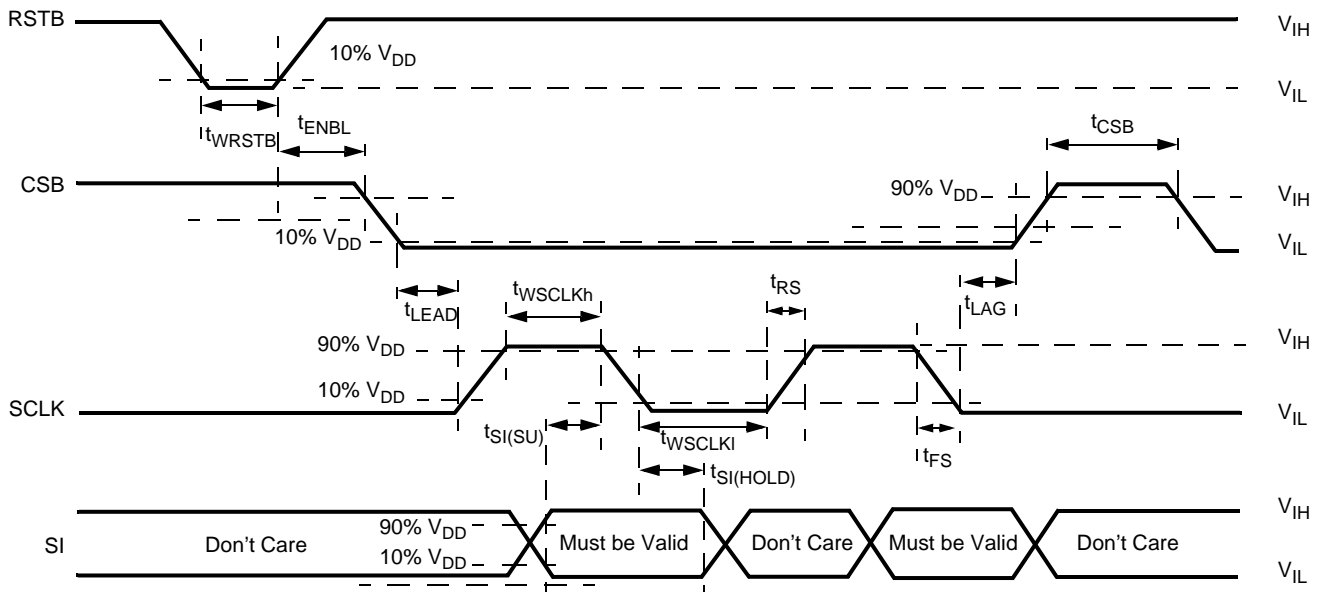

Figure 7. Timing Requirements During SPI Communication
Serial input (SI) data bits are shifted in at this pin. SI data is read on the falling edge of SCLK. 16-bit data packages are required on the SI pin (see Figure 7), starting with bit D15 (MSB) and ending with D0 (LSB). All the internal device registers are addressed and controlled by a 4-bit address (D9-D12) described in Table 10. Register addresses and function attribution are described in Table 11. The SI pin is internally connected to a pull-down current source, I_{DWN} .